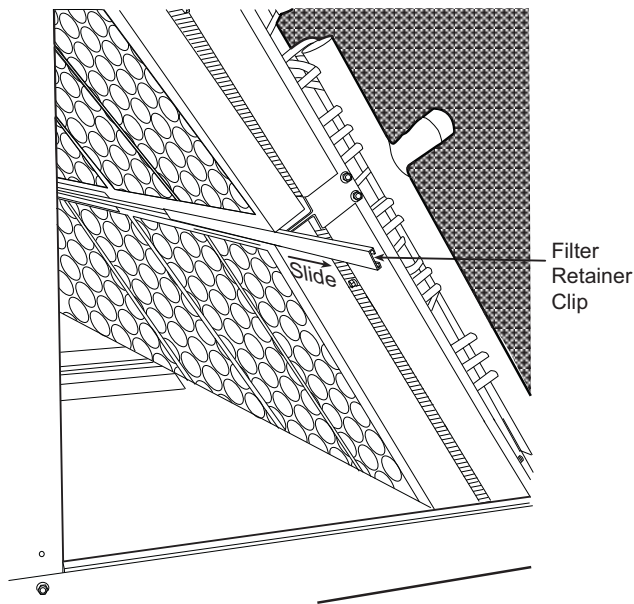

Fig. 33 — Remove Filter Retainer Clip
2. Remove the filter retainer clip (see Fig. 33).